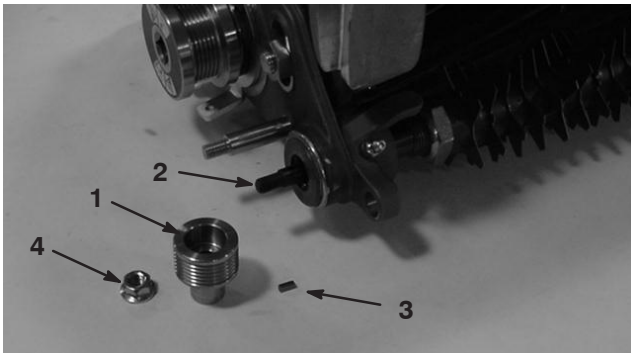

Figure 38
6. Remove the flange lock nut and square key securing the driven pulley to the end of the groomer shaft (Fig. 38). Remove the pulley.